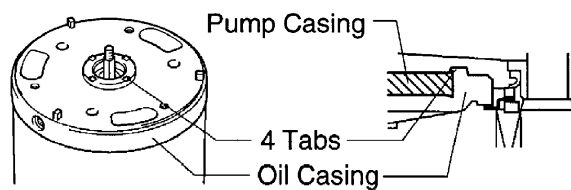

Fig. 2
- (3) During the assembly of the Pump Casing, make sure to press it firmly against the contact surface. The flange portion on the inside of the Oil Casing has four tabs, as shown in Fig. 2. Make sure to firmly press the Pump Casing until it engages with those tabs.